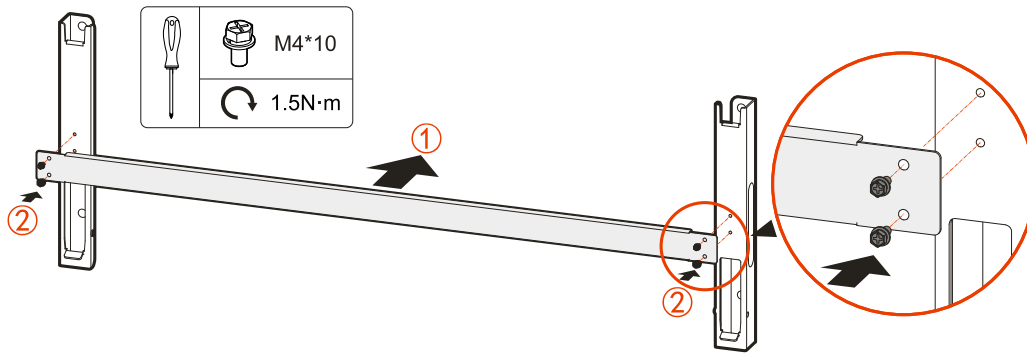

Figure3-18 Assemble installation holder
- Step 1 Use the four M4*10 combination bolts in accessories to fix the installation holder with the joint lever, as shown in Figure3-18.